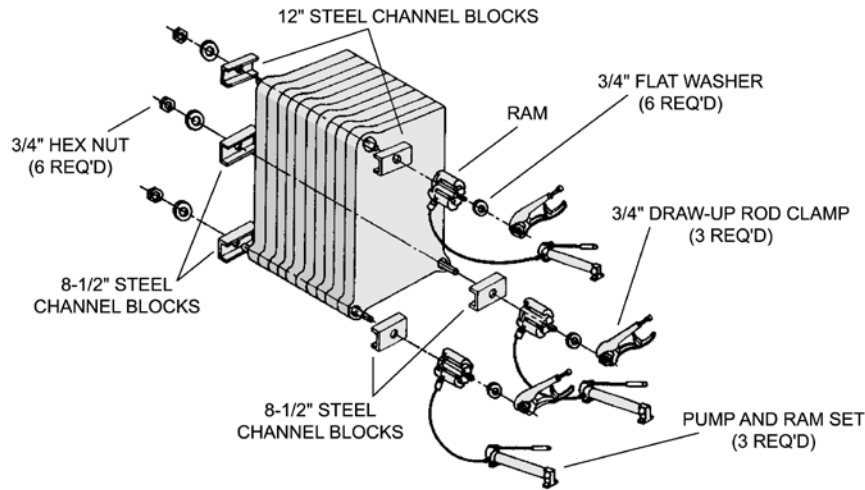

Figure 13: Hydraulic Draw-Up of Sections
- d. Place a 12" long steel channel on each end of the upper draw-up rod and an 8½" long steel channel on each end of the lower draw-up rods. Install nuts and washers on one end of the draw-up rods and the hydraulic rams, washers and draw-up rod clamps on the other. See Figure 13.